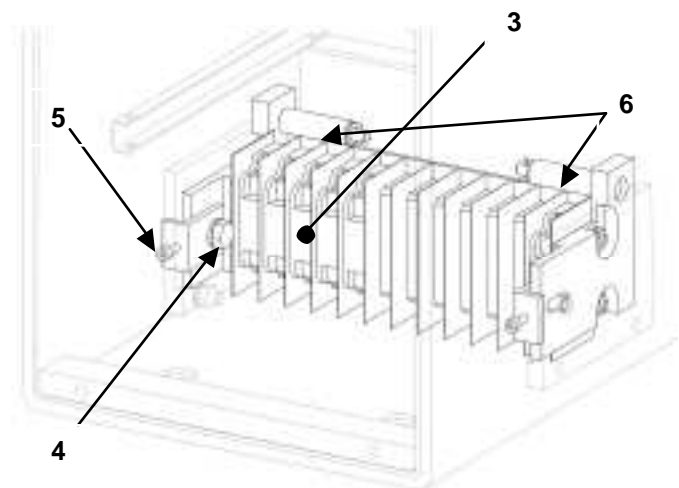

Fig. 56-2 Auxiliary switch block
- [Fig. 56-2] Loosen screw (4) on the side (left or right), which needs to be re-adjusted. Turn the proper adjusting screw (5) clockwise, until all contacts switch properly. **Warning!** Adjusting screw (5) too far in may over compress the switches' pin and cause breakdown.